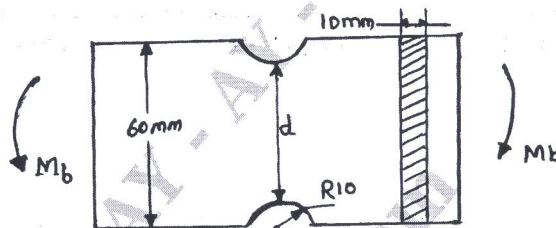

Fig Q3(a)
- 3 a. A notched flat plate shown in Fig Q3(a) is subjected to Bending moment of 10N-m. Determine the maximum stress induced in the member by taking the stress concentration into account.